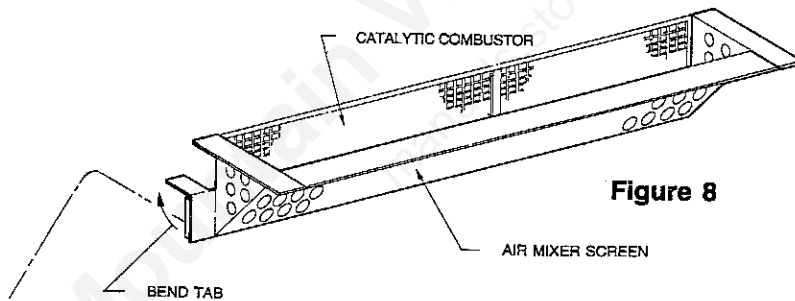

Figure 8
1. Bend the tabs on each end of the stainless steel air mixer screen up as shown in Fig. 8. Remove air mixer screen.